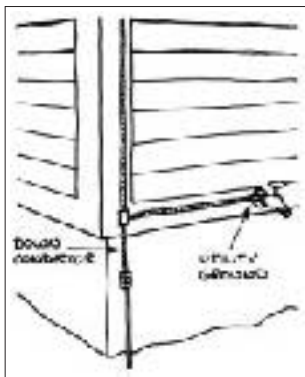

Figure 7. Each downconductor needs a grounding connection, which must be interconnected with utility grounds.
**3. Grounding System.** You must ground every downconductor with a grounding-system connection (see Figure 7). You must also interconnect the lightning-protection grounding system with utility grounds. The type and configuration of a grounding system depends on the "resistivity," moisture content and penetrability of the soil, and the sensitivity of the building's contents. Electronic equipment or sensitive substances (like explosives or unstable gasses) are vulnerable to heightened electric fields during a lightning discharge to the building.